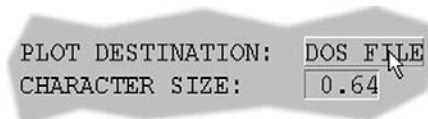

Figure 11. Accumark™ Plot Destination button.
5. Click on the **Plot Destination** button until it reads *DOS FILE*. (Figure 11.)